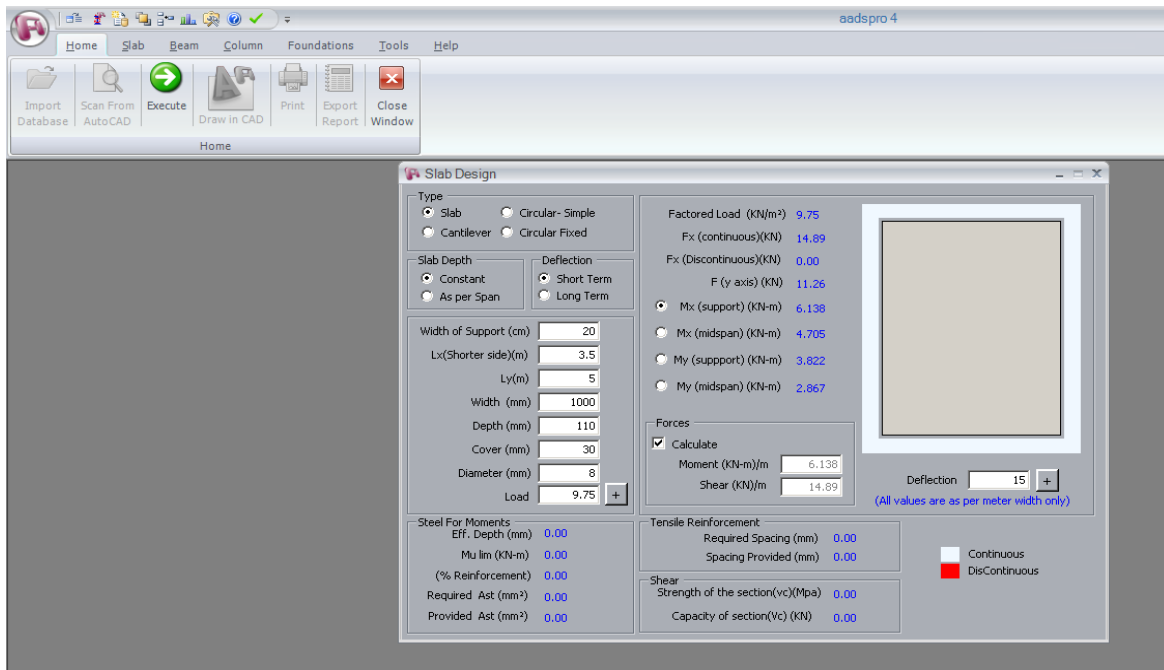

Fig 7.2.2
- User can set data in slab design grid (fig7.2.2)